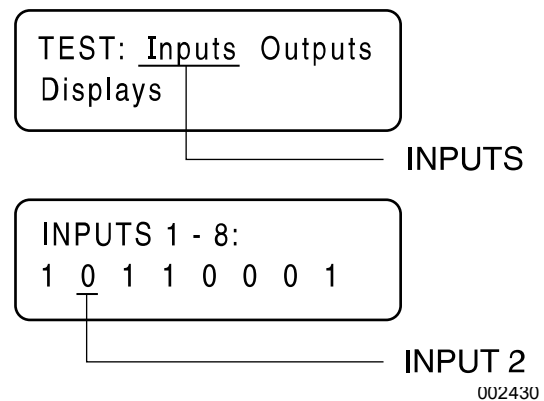

Figure 3-76. The Input Screens
1. See **Figure 3-76**. Navigate to the Digital inputs display screen of the controller being worked on.